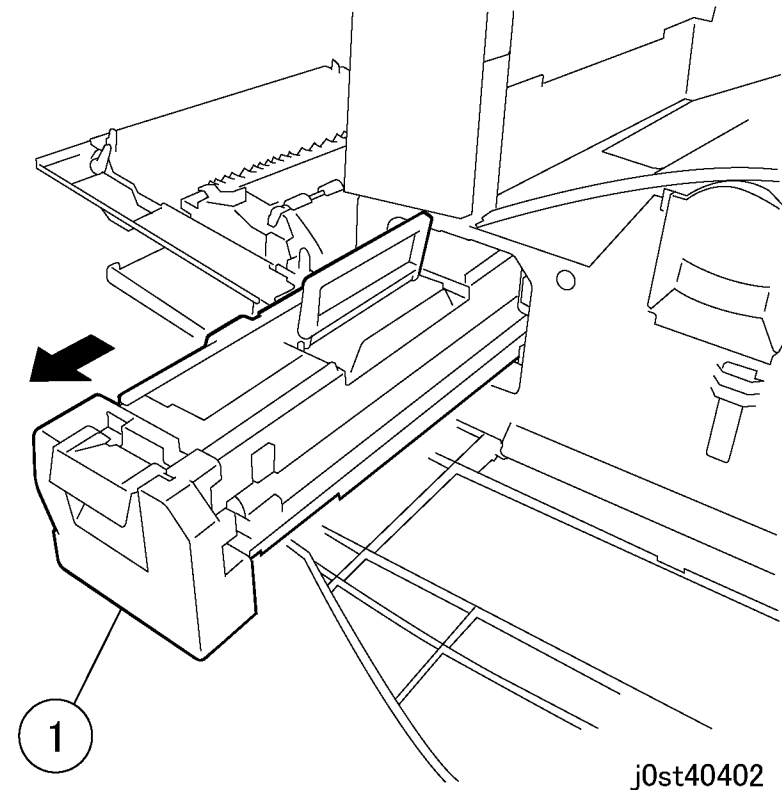

Figure 1 Removing the Xero/Developer Cartridge (j0st40402)
3. Remove the Xero/Developer Cartridge. (Figure 1)